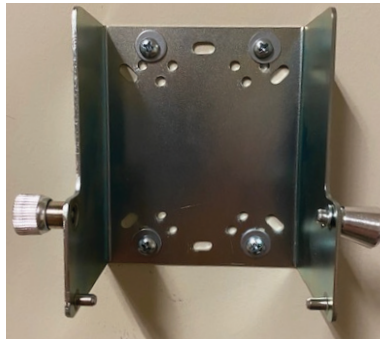

Figure 10 Wall-Mount Bracket Attached to a Wall
Step 3 Attach the wall-mount bracket to the wall. Figure 10 shows the SCRN-510 wall-mount bracket attached to a wall.